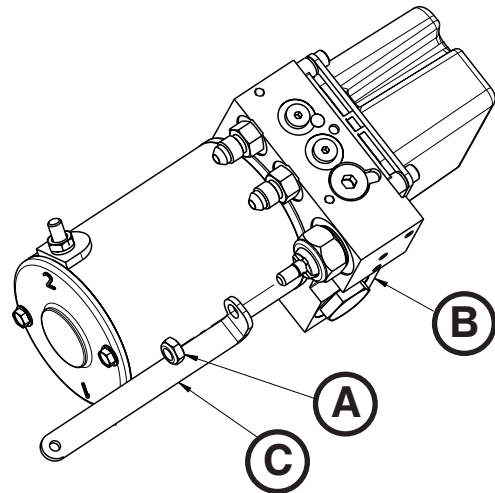

Figure 87
5. Using a 7/16" deep well socket and 3/8" drive ratchet, remove the Nylock Hex nut (A) that secures the non-locking manual valve (B) to the manual release link (C) (Figure 87).
**Note:** Place a 1/16" hex wrench through the slot on the non-locking manual valve (B) to keep it from turning (Figure 87).
6. Using a 7/8" deep well socket and 3/8" drive ratchet, remove the non-locking manual valve (B) (Figure 87). Discard the valve.